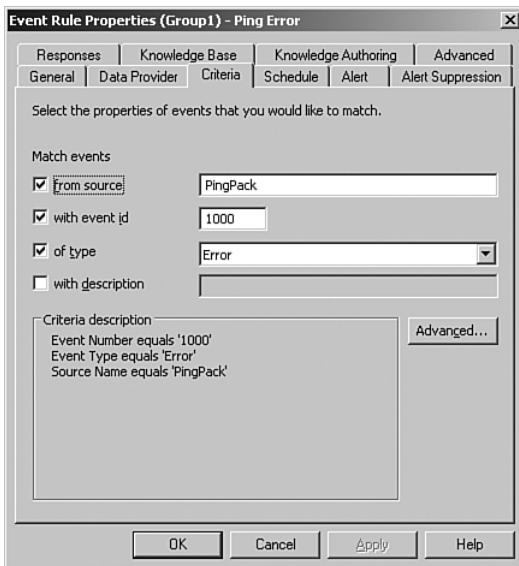

FIGURE 20.24 Event Rule properties criteria.
3. On the Event Rule Properties – Criteria page fill out the screen as shown in Figure 20.24.